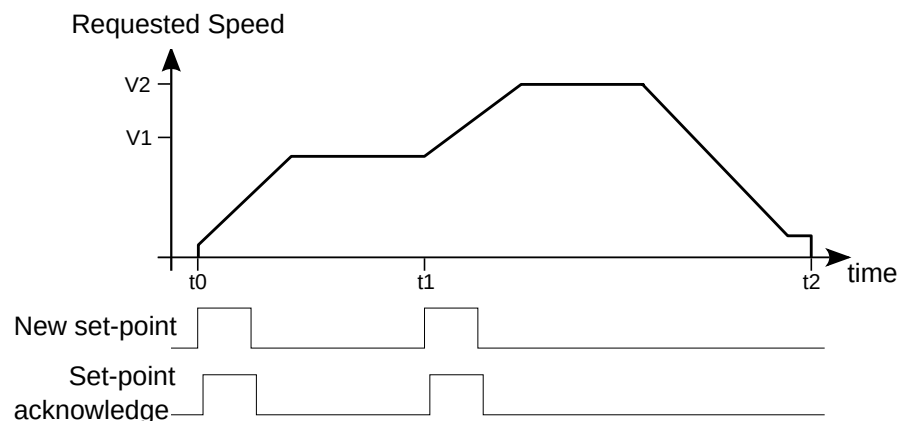
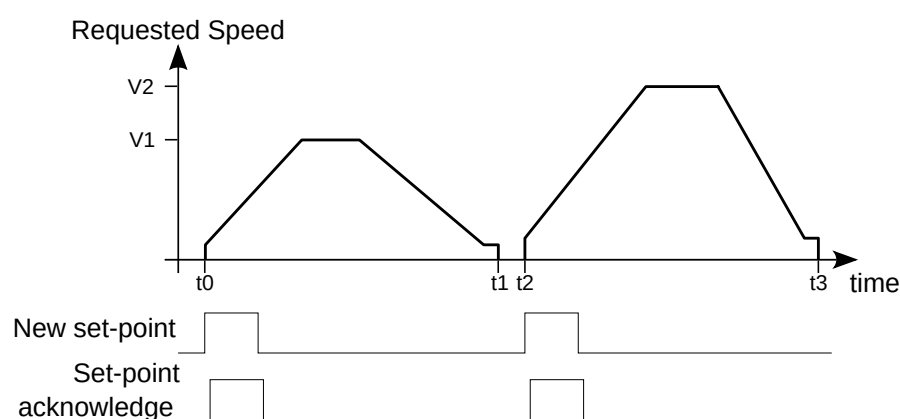

Figure 22.2. Timing chart Profile Position Mode in Single set point mode.
Figure 22.3. Timing chart Profile Position Mode in Set of set points mode.
- bit *Change set immediately*: through this bit it is possible to choose the mode of positioning between *Single set-point* (if the bit is set to 0) and *Set of set-point* (if the bit is set to 1). In the Set of set-point mode (see Figure 22.3) you can find only a buffer of data, the one for the data used during the positioning. In the Single set-point mode (see Figure 22.2) the positioning acts as described in the bit *Change immediately option* in the parameter **PositioningOptionCode**. The bit must be set with the transition of the bit *New set-point*;